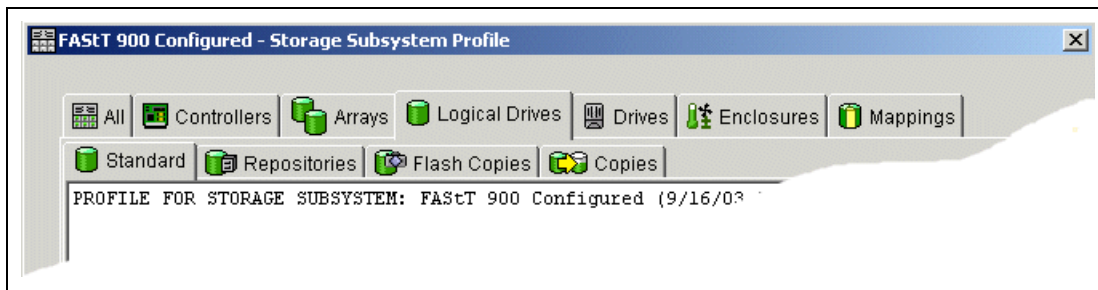

Figure 9-27 Storage subsystem profile - All tab
3. The Storage Subsystem Profile dialog is displayed (Figure 9-27). The Storage Subsystem Profile contains several tabs that categorize the information.